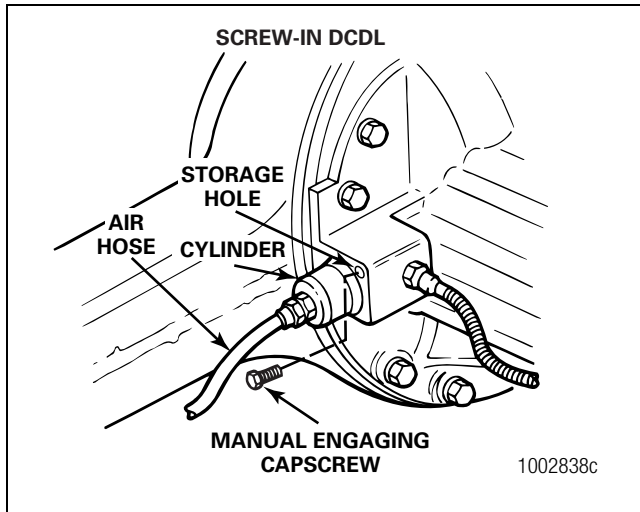
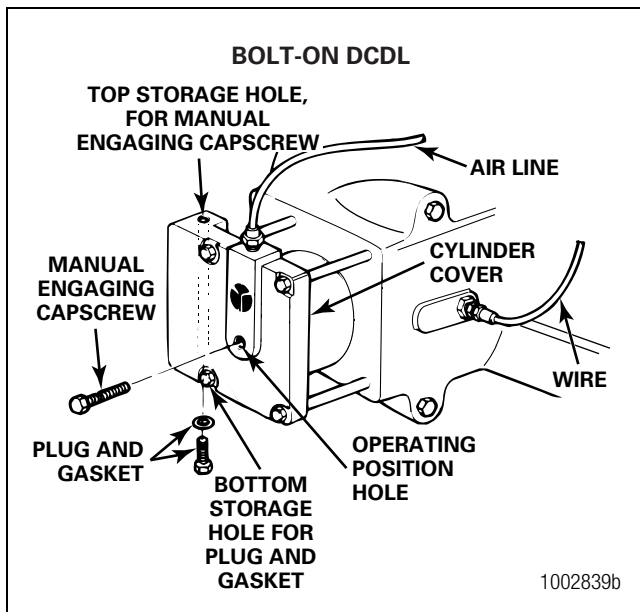

Figure 6.2
Figure 6.3
If an auxiliary air supply is not available or if the differential carrier is to be stored for later use, use this manual engaging method for the DCDL. Figure 6.2 and Figure 6.3.
8. Remove the manual engaging capscrew from the top storage hole in the cylinder cover or the shift tower of the carriers with the threaded type shift assembly. Figure 6.2 and Figure 6.3.
**NOTE:** For a bolt-on DCDL shift assembly, the storage hole for the plug and gasket is the opposite end of the storage hole for the manual engaging capscrew. Figure 6.3.